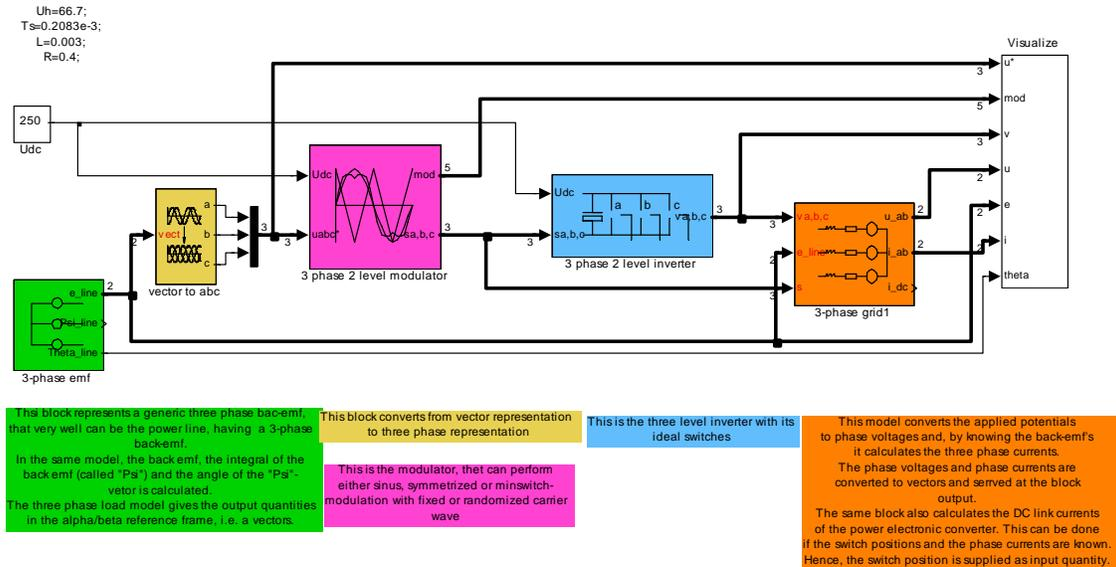
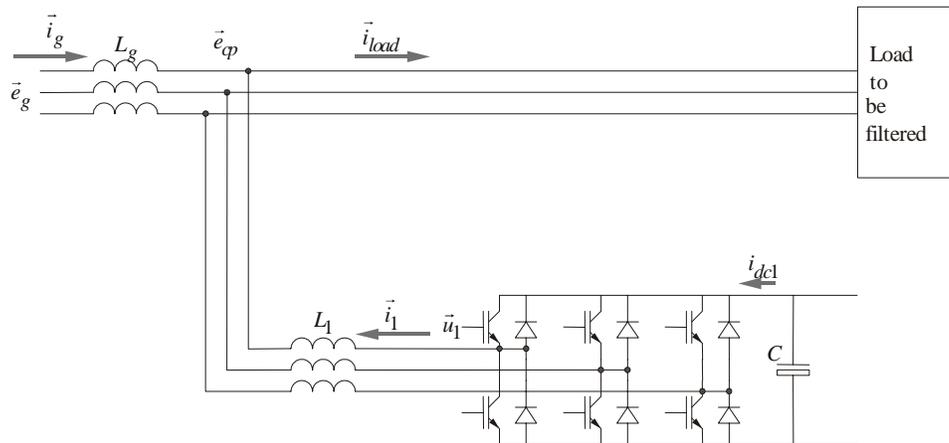

Figure 1. Top level of the code for the modulation task.
Figure 3. The active power filter connected to support a load.
In this first part your task is to study the current ripple of the three different modulation methods. The top level of the code is given in figure 1.
There are two generic types of APF's, the series and the shunt active filter. Both are described in the book, but in this lab we will study the shunt active filter. Figure 3 shows how the filter is connected together with the load to be filtered.
There are two particular restrictions with a shunt active filter connected like in figure 3:
- 1 *No 3rd harmonics.* The APF in figure 3 cannot supply currents that have the same phase position (zero sequence) in all three phase conductors, since then there would be no return path for those currents. This makes the filter in figure 1 unsuited to compensate loads that consume large amounts of 3rd harmonics (3rd harmonics get the same phase position for all three phase currents).
- 2 *No active power.* The APF, connected as in figure 1, is not able to support the load with a continuous flow of active power, since there is no source of energy on the DC side of the filter apart from the energy stored in the DC link capacitor. Any short time flow of active power between the DC and the AC side of the filter corresponds to a charge or a discharge of the DC link capacitor, depending of the direction of the power flow. In reality this means that with realistic sizes of the DC link capacitor, the APF can supply active power to the grid only for some millisecond, for longer times the corresponding change of the DC link voltage will be too big.